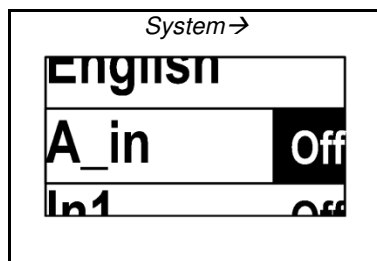

Fig. 46: Analogue input
When external drive is activated, this is indicated in the main display with the “RC” (1) symbol (see Fig. 46).